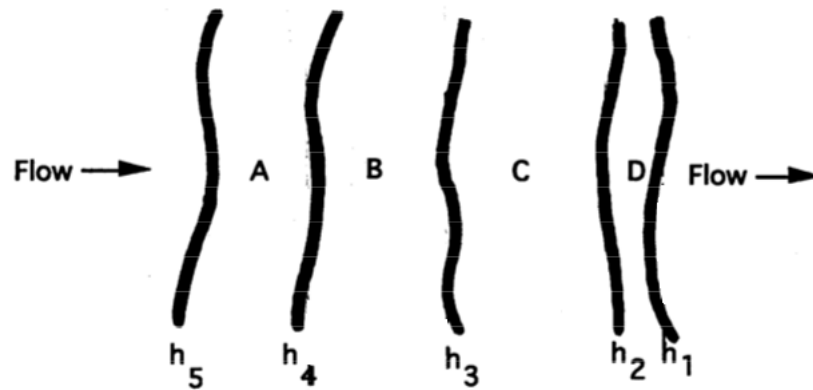

Figure 2: Elevation View of an Aquifer
2. Figure 2 is a contour map of head in an aquifer system.